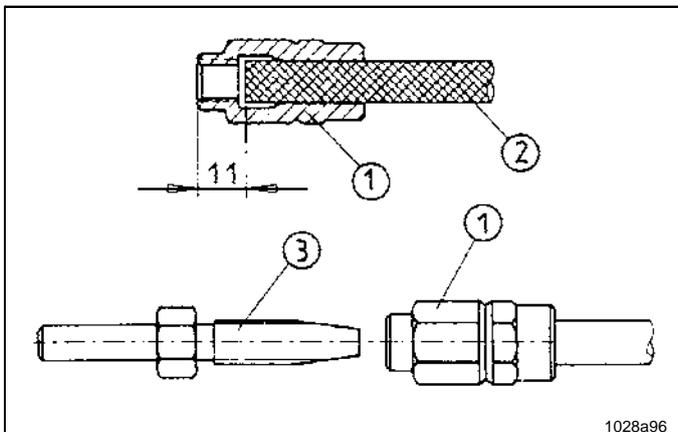

Fig. 54 Pre-assembly of the threaded sleeves and hose studs onto the main line
- Screw threaded sleeve (1, fig. 54) counterclockwise onto the high-pressure hose (2) until the illustrated dimension of 11mm is reached. Then screw the hose stud (3) into the threaded sleeve (1).